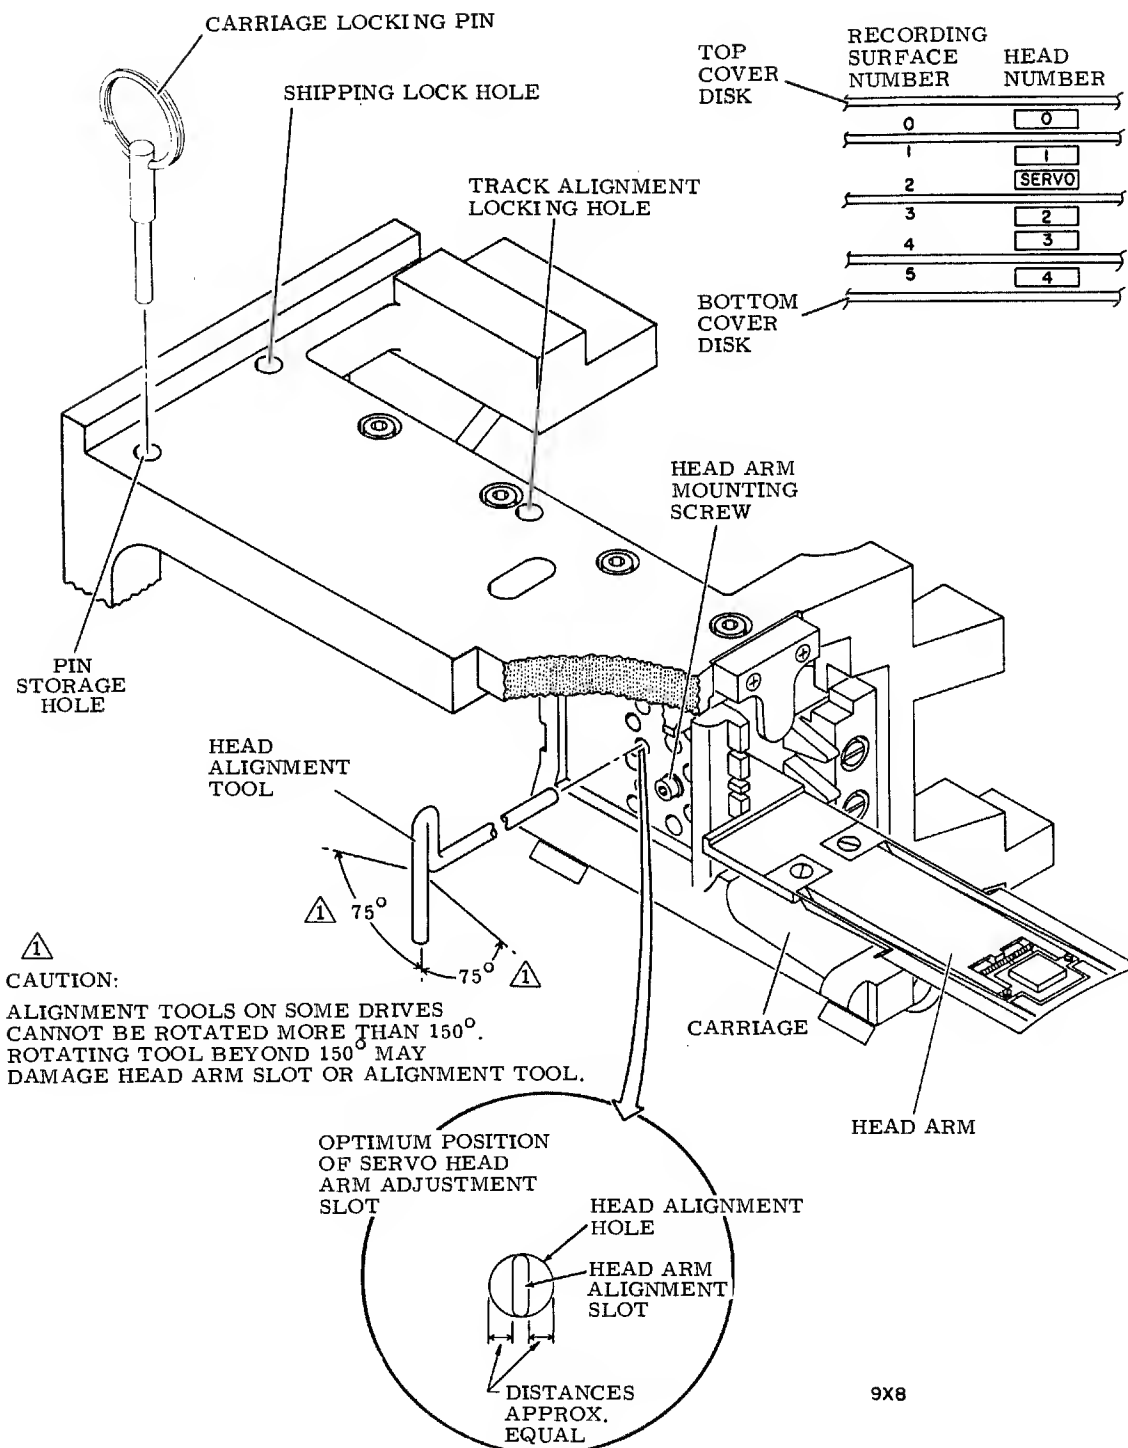

Figure 2-15. Head Arm Alignment
11. Command direct seek to cylinder 245, install carriage locking pin into alignment hole (refer to figure 2-15) and repeat steps 4 through 8.
- b. Install head alignment tool so that tool pin engages head-arm alignment slot (refer to figure 2-15).